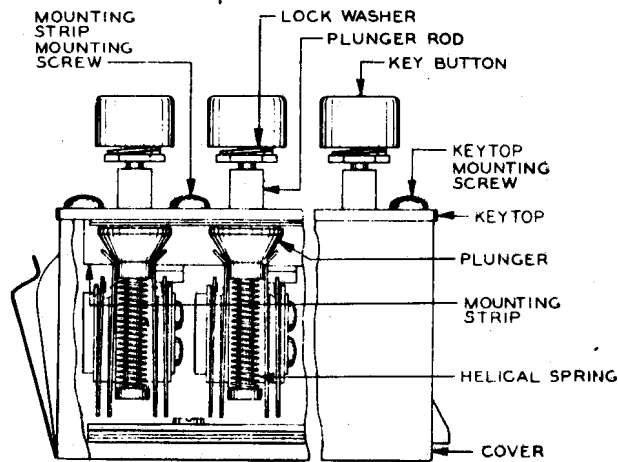

Fig. 58—499-Type Key
3.28 499-, 523-, and 524-Type Keys: Remove the keytop mounting screws with the 3-inch C screwdriver and remove the key from its cover. If the plunger rod is to be replaced, remove the key button, washer, and nut as covered in 3.07. If the plunger or helical spring is to be replaced, the button does not need to be removed. Loosen the mounting strip screws with the 3-inch C screwdriver and remove and replace the helical spring without entirely removing the mounting strip from the keytop. If the plunger or plunger rod is being replaced, remove the mounting strip screws and move the mounting strip and spring assemblies sufficiently to permit the removal of the plunger or plunger rod. If possible, hold the key in a horizontal position to prevent the springs and plungers on adjacent units from dropping off. Reassemble the parts and tighten all screws securely. (See Fig. 58.)